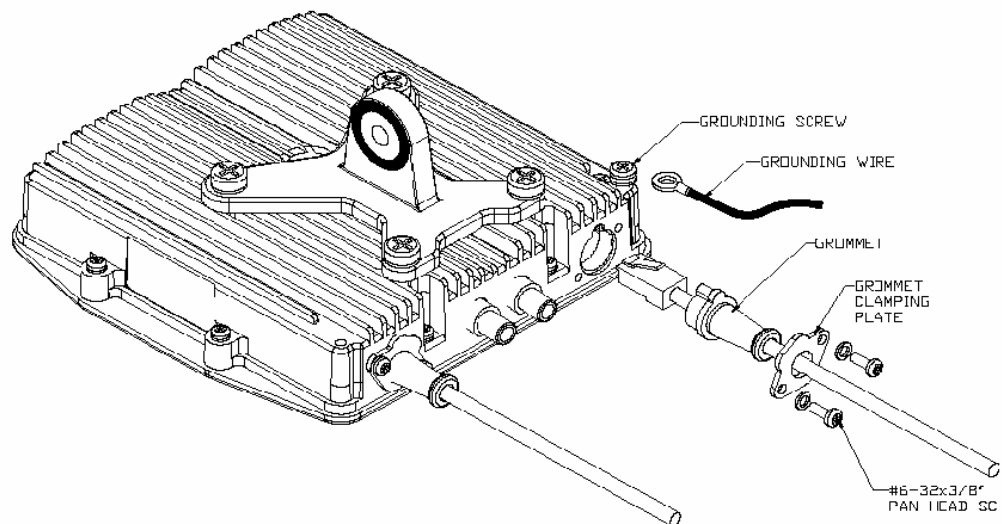

Figure 2-6: Cable assembly to Outdoor Unit
- Insert the RJ-45 to the Outdoor Unit (Figure 2-6).